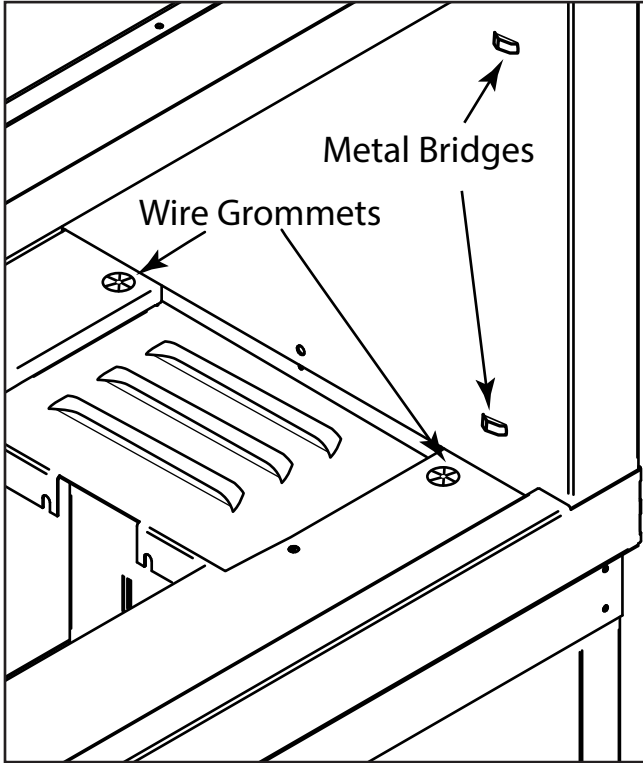

Fig. 3 Locating wire grommets
Step 2: Locate Wire Grommets Inside Firebox: Locate the wire grommets inside the firebox. See Fig. 3. Directly above them will be a two metal bridges to install the glass panel clips. Remove the glass panel clips from the packaging.